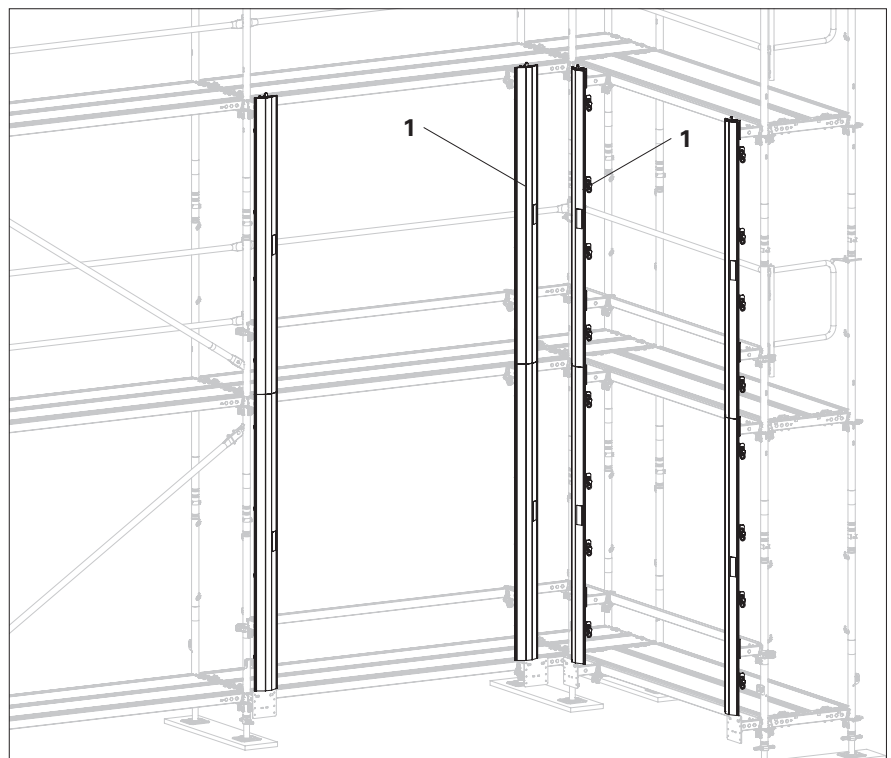

Fig. C2.03
1. Assemble the Girder Formwork CVR 200 (1) on the UC 25 supports. (Fig. C2.03)